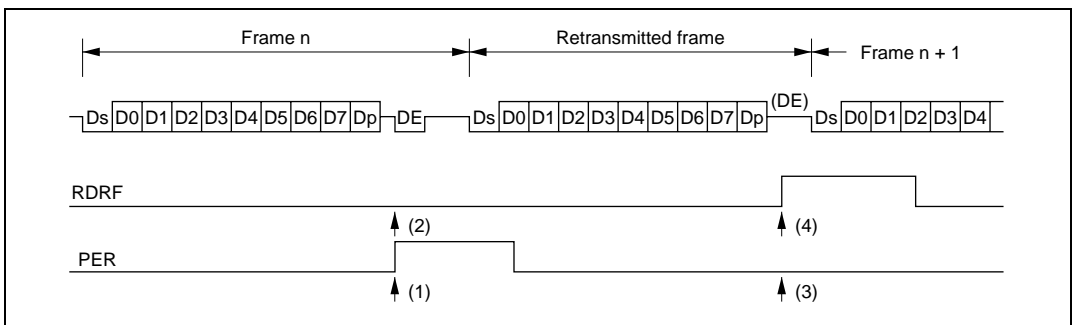

Figure 14.11 Retransmission in SCI Receive Mode
- Retransmission when SCI is in Receive Mode (See Figure 14.11)